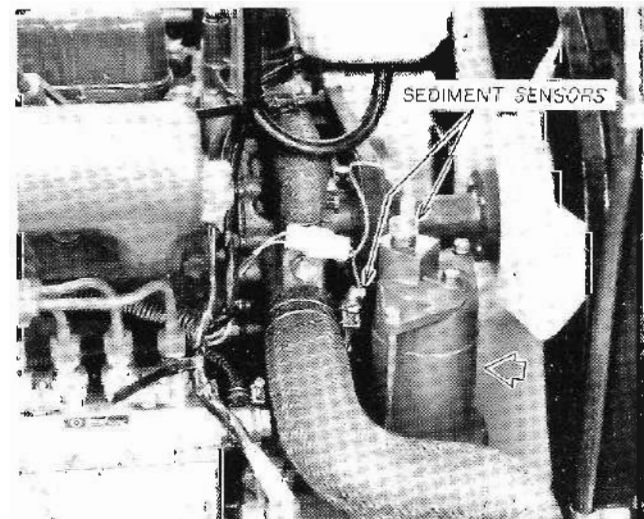

Figure 43 – Hydraulic System Filter
1. Remove two bolts holding filter housing in place, Figure 43.